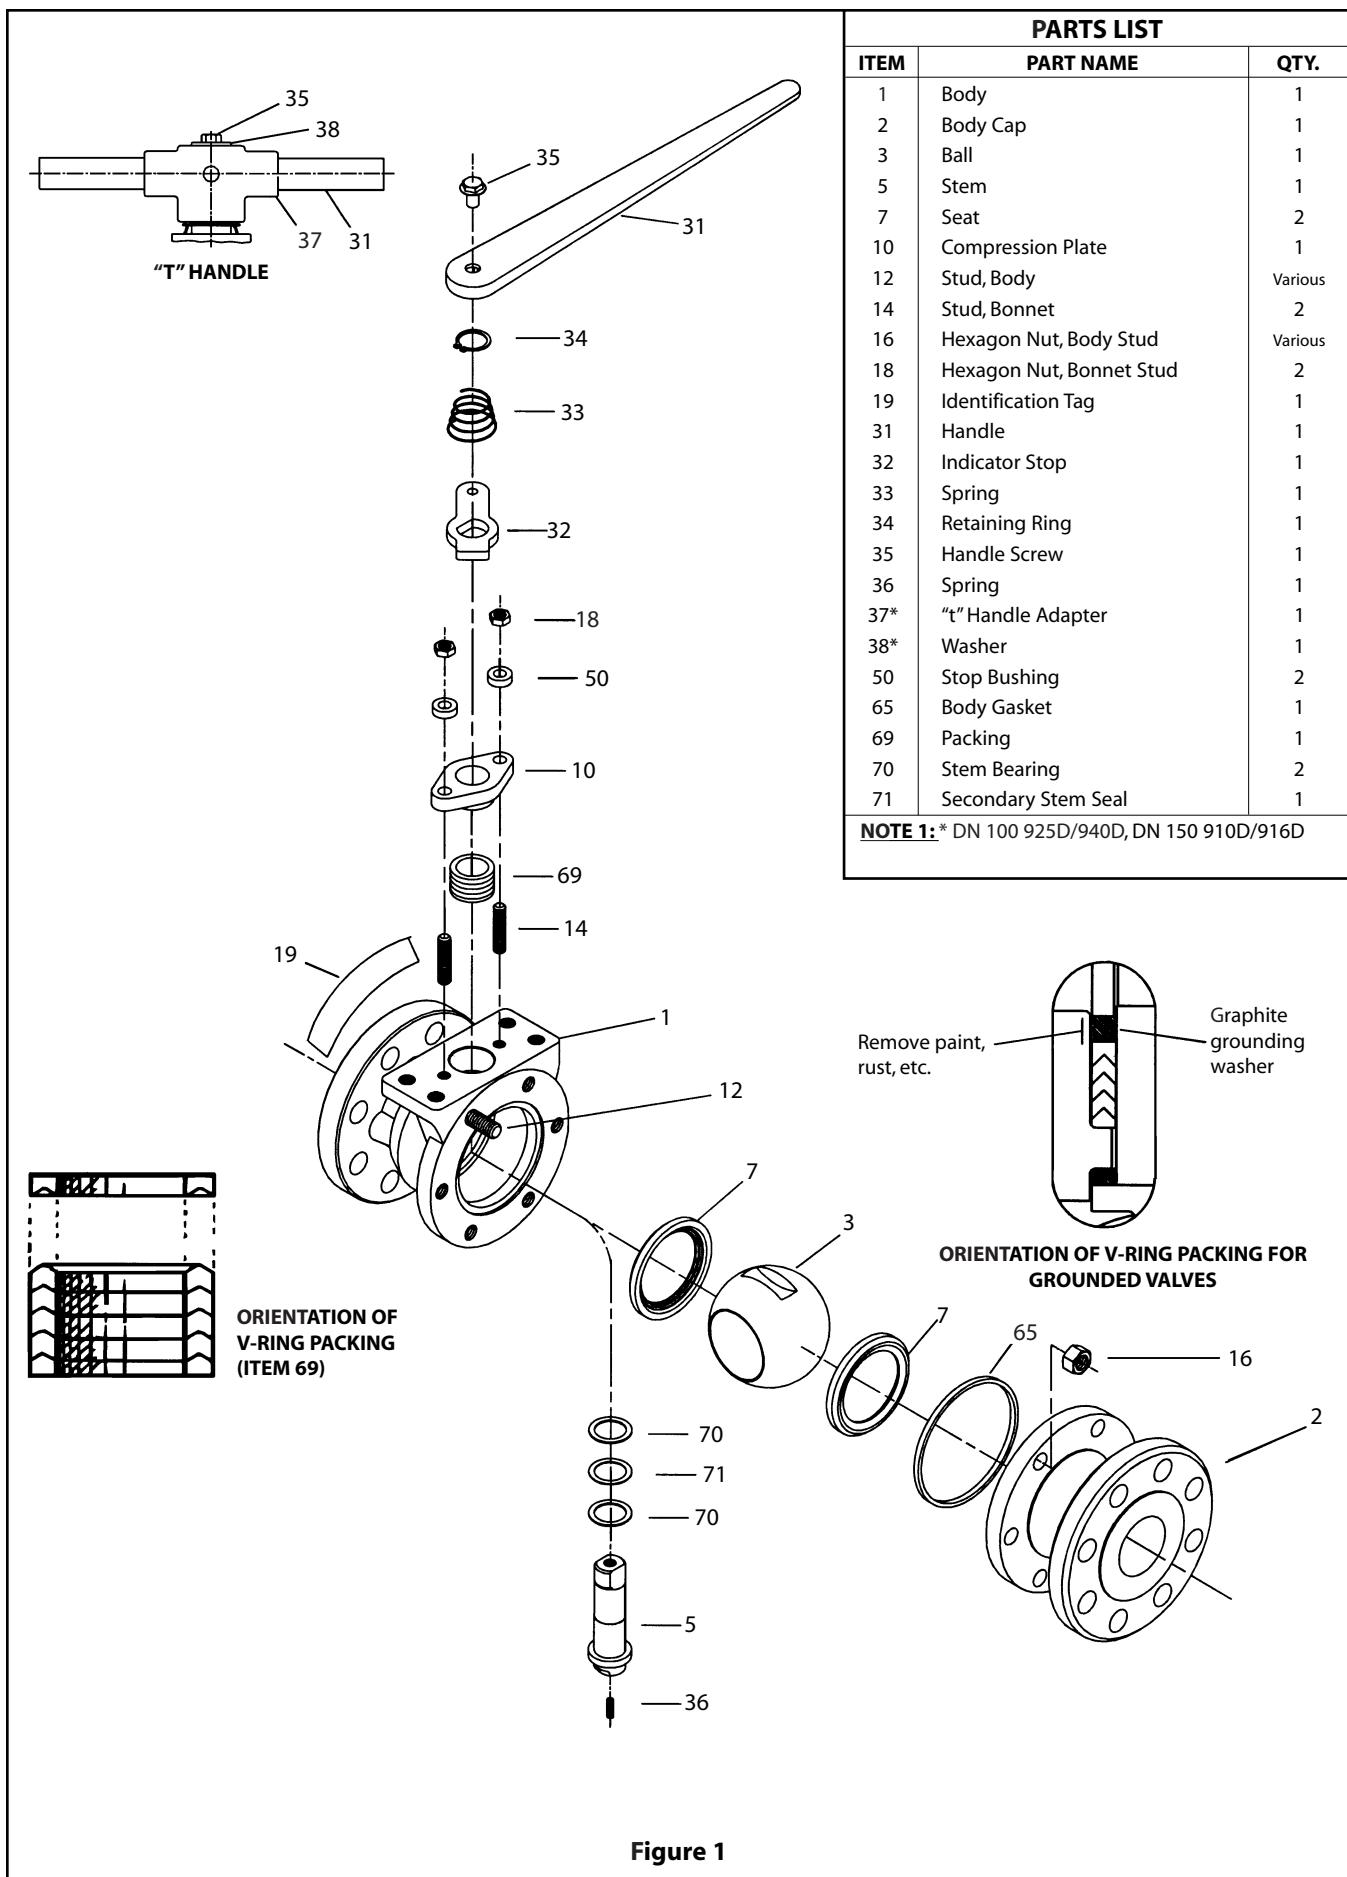
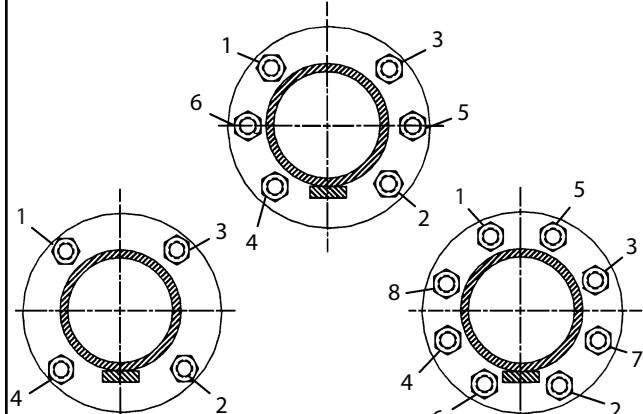

Figure 1
Figure 2
5. Standing the body (1) carefully on end, install one seat (7).
6. From inside the valve, place a thrust bearing (70), a secondary stem seal (71), and the second thrust bearing into the stem bore. (**See Figure 1 for proper orientation.**) Place the spring (36) into the bottom of the stem.
7. Insert the stem (5) from inside the body through the bonnet of the valve.
8. Install the packing (69). (**If the packing is V-ring type, be certain that they are installed in the orientation shown in Figure 1.**) If the valve is to be grounded, remove one middle V-ring and place graphite grounding washer on top of stack. (**See Figure 1.**)
9. Place compression plate (10) over the stem (5) and studs (14). Place stop bushings (50) and nuts (18) on studs (14) and tighten "finger tight," then tighten an additional 1/4 turn.
10. Install the ball (3) rotating it onto the stem (5) in the closed position. Gently rock the ball to make sure the stem is centered in the ball slot (**see Figure 1, stem-to-ball location.**)
11. Gently place the body gasket (65) into the machined recess of the body (1).
12. Place the remaining seat (7) on top of the ball.
13. Place the body cap (2) over body studs (12) being careful to properly orient body cap and body as originally assembled by matching orientation marks made prior to disassembly. Take care not to damage body gasket (65) or seat (7) during this operation.
14. Lubricate the threads and face of nuts (16) with Never-Seez® or equivalent. Install nuts (16) on body studs (12) and tighten sequentially as shown in the diagram (**Figure 2**), to the recommended torques as shown in the torque chart (**Table 2**).
15. Place the indicator stop (32) with "bottom" facing down over the stem so that the longer part is over the body.
16. Place the spring (33) over the stem (5) with the larger diameter contacting the indicator stop (32).
17. Compress the spring (33) and hold down by putting the retaining ring (34) in the groove in the stem (5).